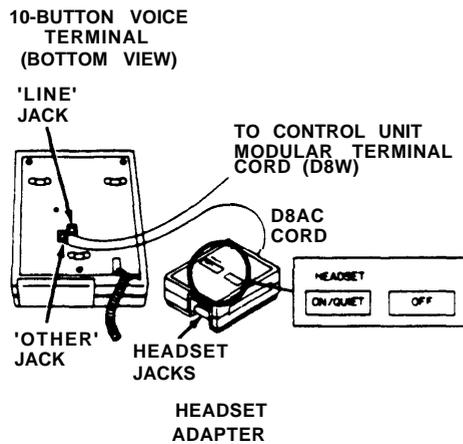

Figure 1
1. Place the adapter near the voice terminal to which it will be connected (see Figure 1).